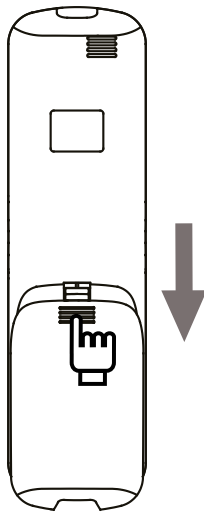

fig. 6
1) Slide to move the battery cover at the back of the remote remote control in the direction indicated by the arrow (see “fig. 6”);